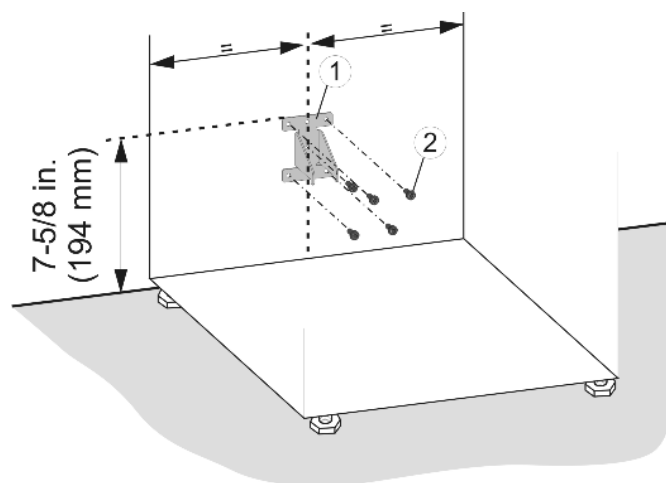

Fig. 41
- Install the anti-tip device Fig. 41 (1) using appropriate screws Fig. 41 (2).